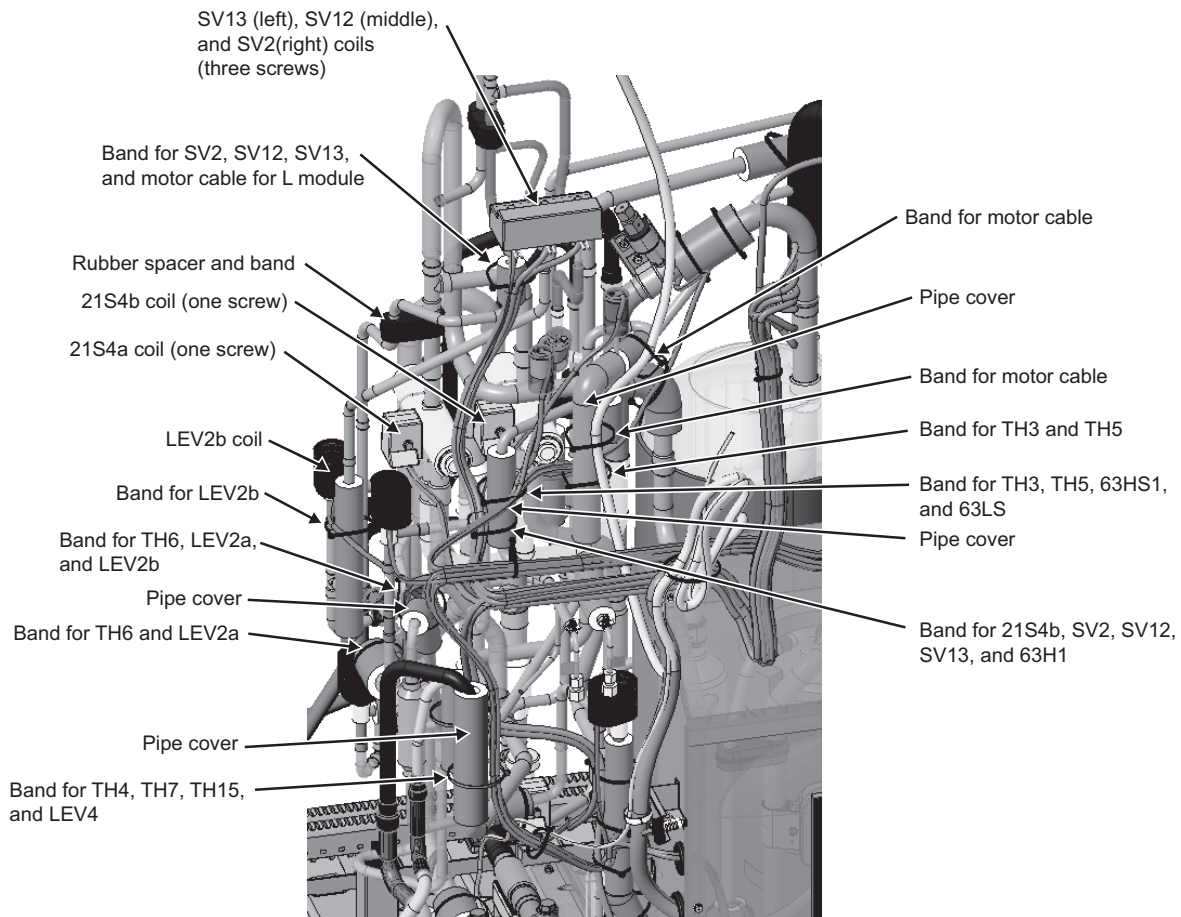

Fig. 1
(1) Remove the four-way valve coils, LEV coils, coil covers, coil caps, pipe covers, rubber spacers, and bands. (Fig. 1)